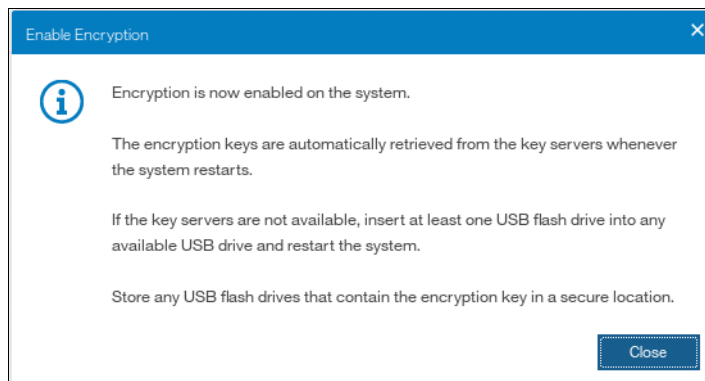

Figure 13-55 Confirmation of successful configuration of two encryption key providers
4. After you click finish, the system will configure SKLM servers as a second encryption key provider. Successful completion of the task will be confirmed by a message as in Figure 13-55.